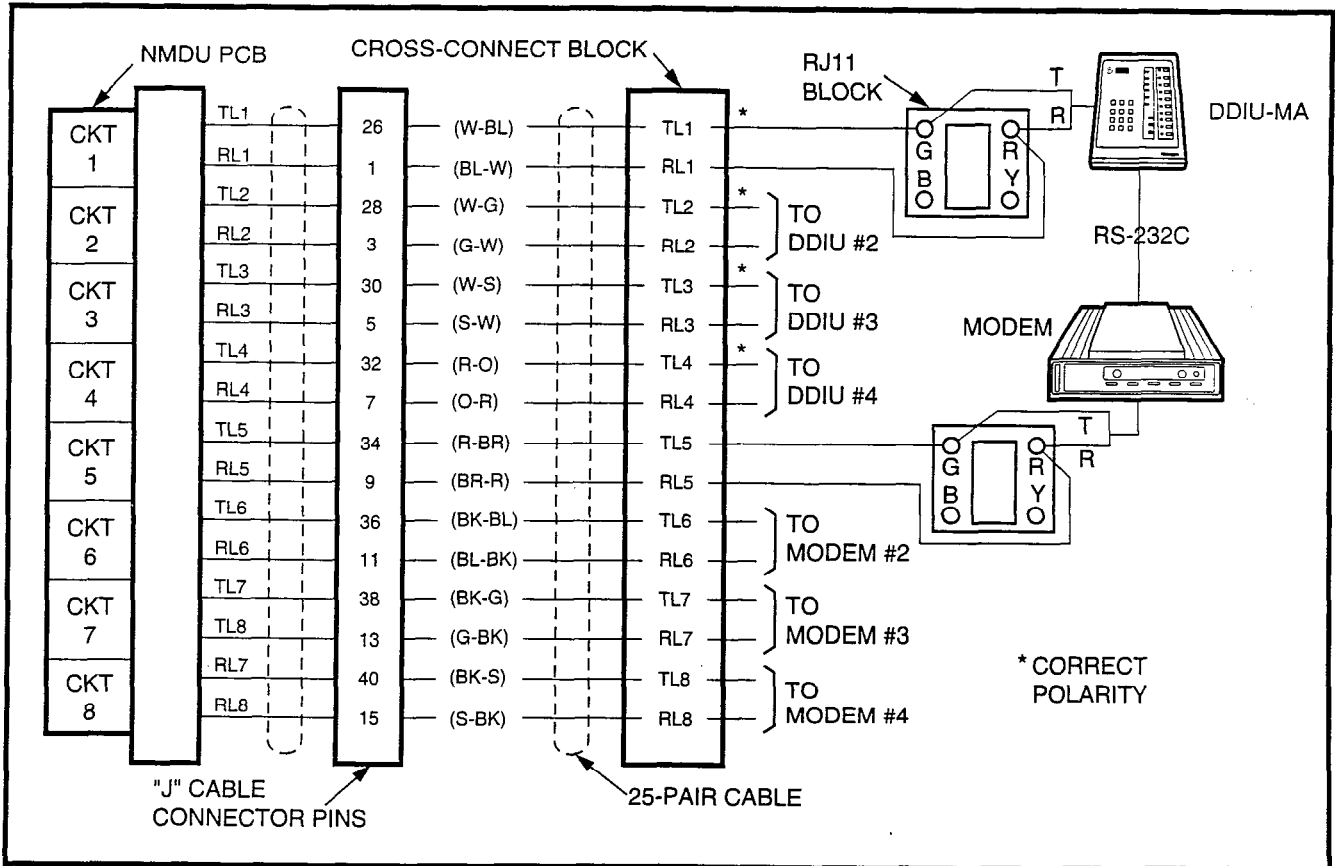

FIGURE 4-67—MODEM POOLING CONNECTION (DDIU-MA ONLY)
9.02 Most modems require only single-pair wiring and are connected to the MDF via standard twisted-pair telephone cables. However, some modems may require a two-pair connection (one for transmit—one for receive). For this type of connection, use the next wire pair (which is not normally used). Modem Pooling Connection details are shown in Figure 4-67.
- 4) Connect the leads to the battery pack (Figure 4-67). Observe the correct polarity. Fix battery leads to the cabinet using the clamp.